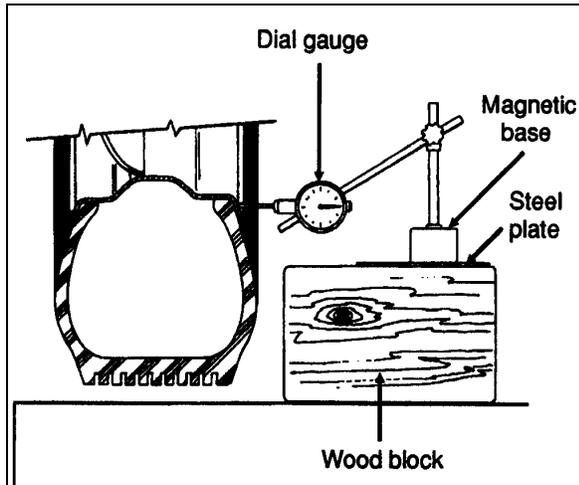

FIGURE 4: DIAL GAUGE INSTALLATION 13008
2. Check wheel lateral runout. Install a dial gauge as shown in Figure 4, then rotate the wheel by hand one full turn. As the wheel turns, note any variation on the dial gauge;